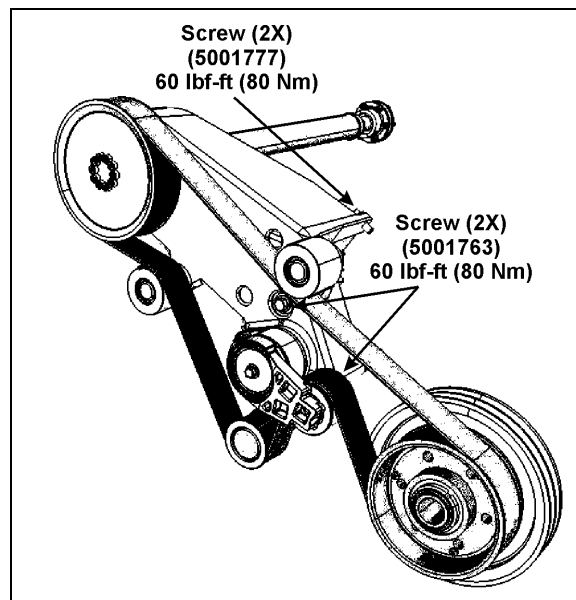

FIGURE 1: SUPPORT # 550919
2. Torque radiator fan drive mechanism support short cap screws to 60 Lb-ft (80 Nm) (Refer to figures 1 and 2).